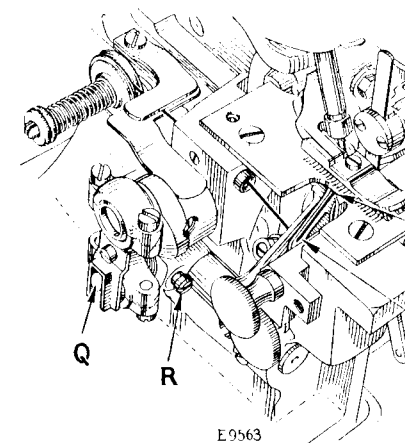

FIG. 44
A variation in the amount of the looper motion can be obtained by adjusting the ball stud (Q, Fig. 44). To increase this motion, loosen the set screw (R, Fig. 44) in the looper lever and move the ball stud (Q) inwardly or toward the looper lever. To decrease the motion, move the ball stud outwardly or away from the looper lever. After the desired motion has been obtained, securely tighten the set screw.